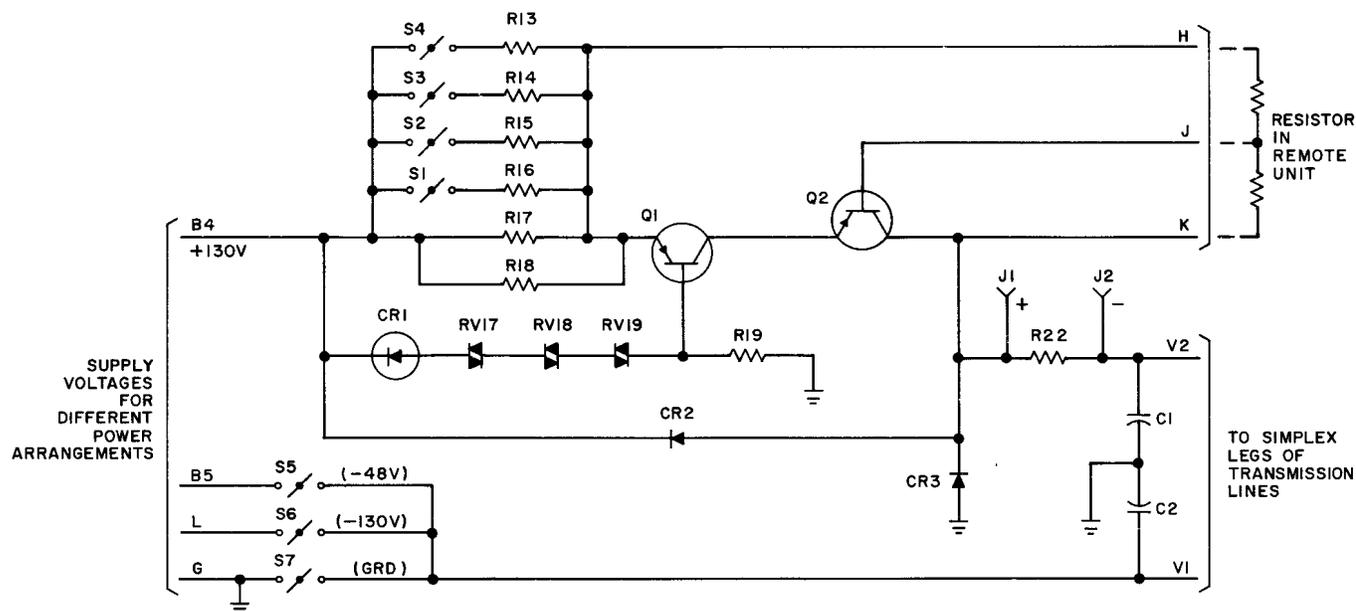

Fig. 1 — Constant-Current Regulator Circuit — Schematic
3.01 A schematic of the constant-current regulator circuit is shown in Fig. 1. The leads designated V1 and V2 connect to the simplex legs of the transmission pairs powered from the east toward the west. Switch S5, S6, or S7 is operated according to the type of power arrangement for the installation. The operation of switches S1 through S4, either individually or in combination, controls the value of resistance in the circuit to obtain the different operating currents required over the line for the different combinations of repeaters and 240-type amplifiers. Transistors Q1 and Q2 provide the regulation at the specific value of operating current. Bias for transistor Q1 is obtained from a voltage divider consisting of diode CR1, varistors RV17, RV18, and RV19, and resistor R19. Bias for transistor Q2 is provided by a resistor in a remote unit. This resistor also bypasses some of the line current around the transistors.